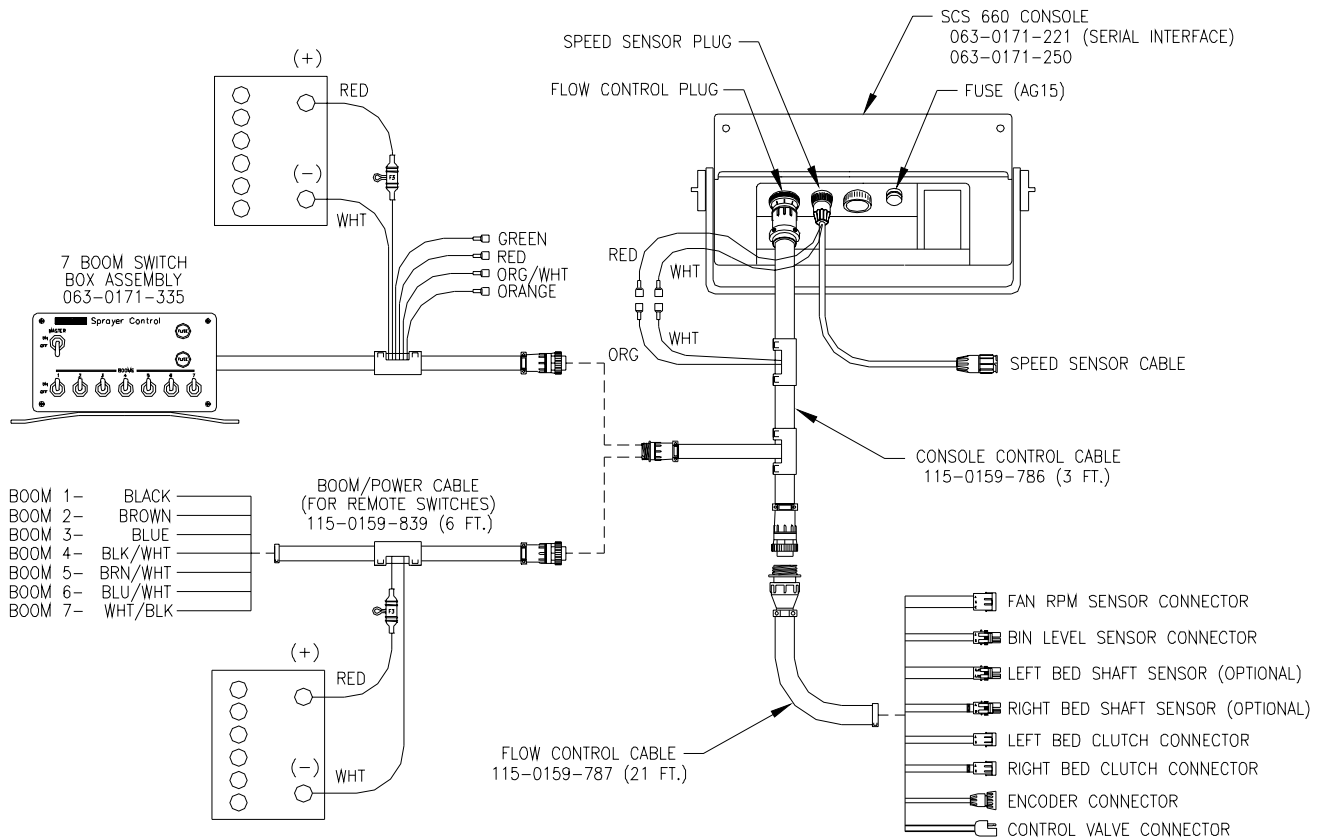

FIGURE 9
- 2) Connect the Console Control Cable to the plug in the back of the Console. (See Figure 9). Route the Console Control Cable out of the vehicle cab and connect with Flow Control Cable. (Extension cables are available from your Dealer).